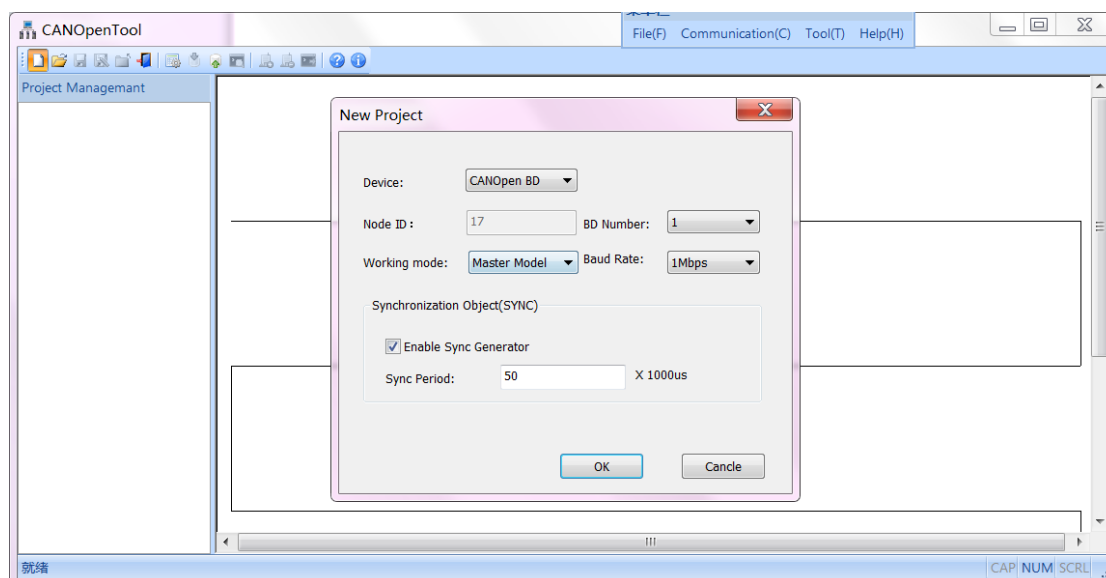

Figure 7-1
- 1) Open the upper computer CANopenTool software, the new master station is as Figure 7-1 shows: